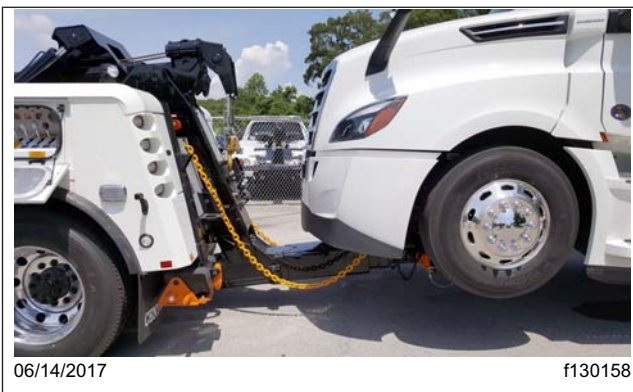

Fig. 23.15, Safety Chains Connected on the Towed Vehicle
17. Connect the safety chains. See Fig. 23.15.